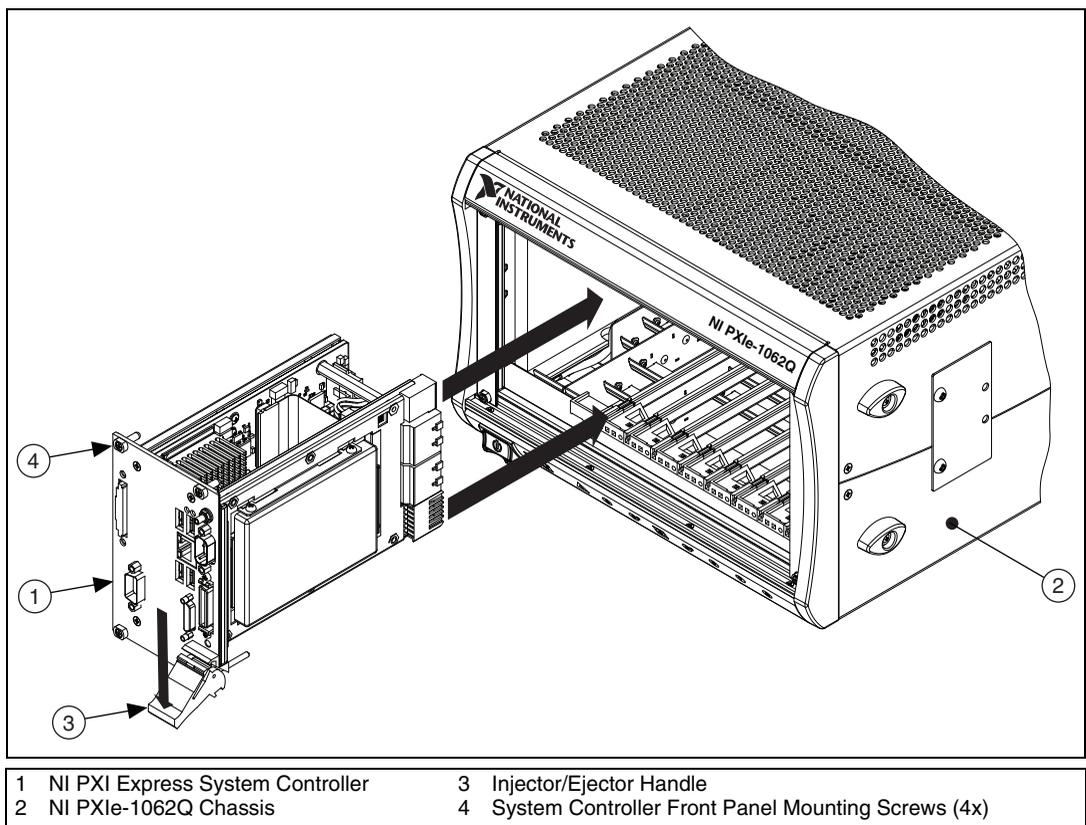

Figure 2-3. Installing a PXI Express System Controller
2. Install the system controller into the system controller slot (slot 1, indicated by the red card guides) by first placing the system controller PCB into the front of the card guides (top and bottom). Slide the system controller to the rear of the chassis, making sure that the injector/ejector handle is pushed down as shown in Figure 2-3.